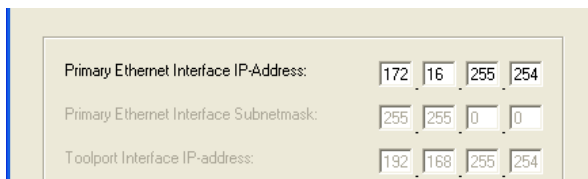

Figure 58. The IPConfig dialog box with factory default setting
2. Click the **Connect** button and press the **Init** push-button on the PLC until the **Run** LED starts to blink. Wait for a minute until a message appears, see Figure 58.